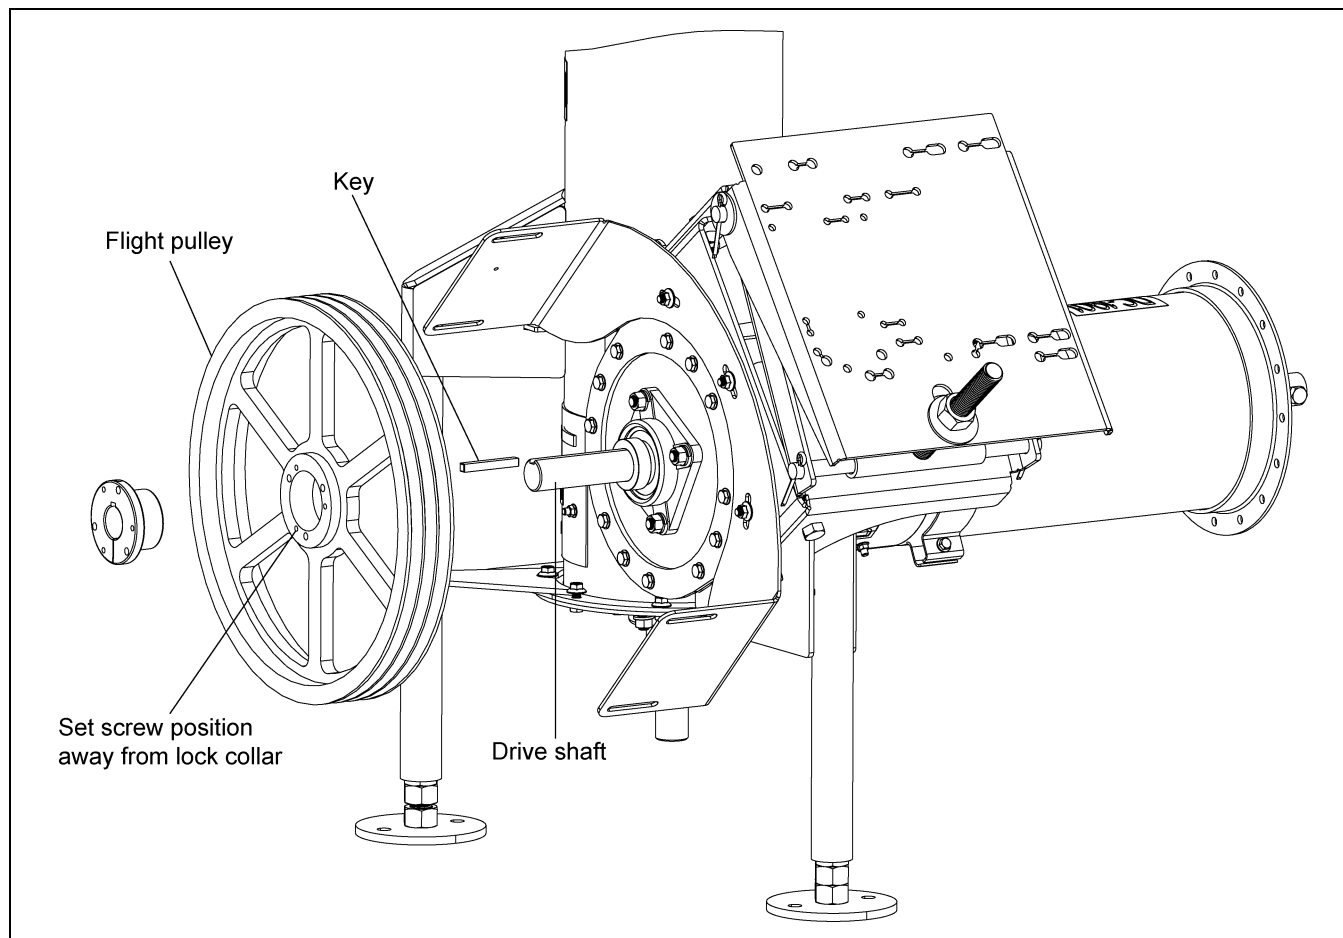

Figure 4T
3. Once the pulley is appropriately positioned, tighten the set screw with a hex head wrench to secure it to the drive shaft. *(See Figure 4T.)*